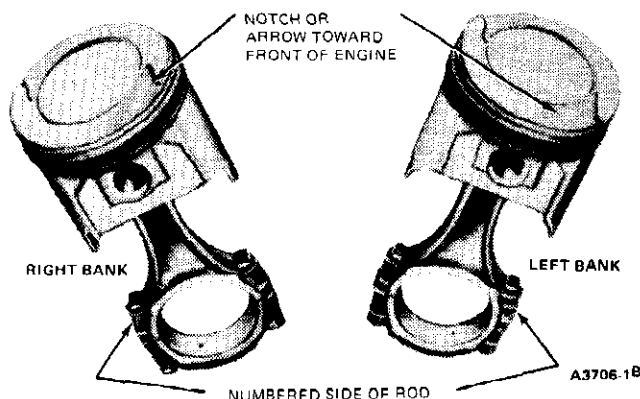

FIG. 50 Correct Piston and Rod Positions
1. Apply a light coat of engine oil to all parts. **Assemble the piston to the connecting rod with the cylinder number side of the connecting rod and the indentation notch in the piston positioned as shown in Fig. 50.**